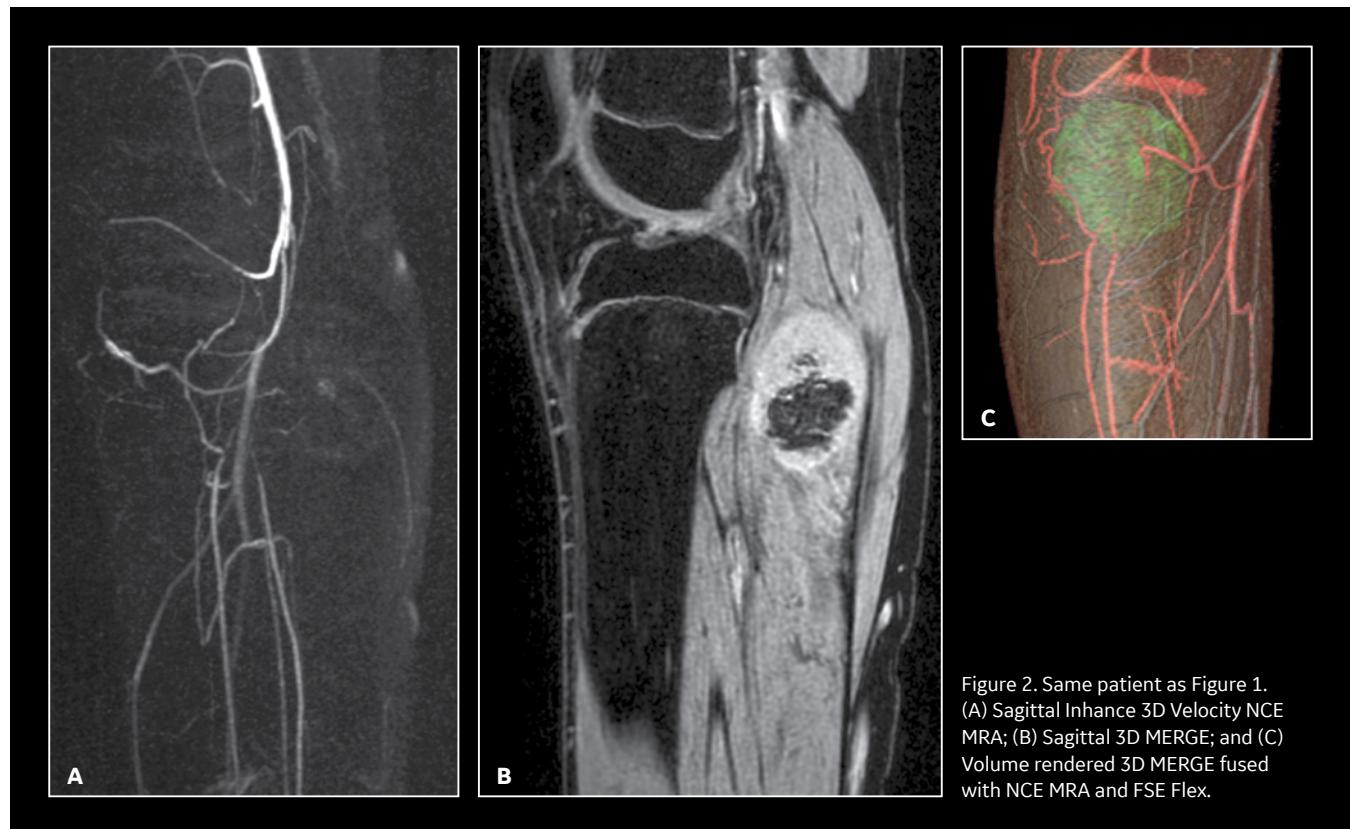

Figure 2. Same patient as Figure 1.
Figure 2. AIR™ Recon DL improves SNR to help depict lesions. (A) Existing protocol: sagittal T2 FSE, 0.9 x 1.0 x 3.5 mm, 4 NEX, 2:50 min. (B) Revised protocol: sagittal T2 FSE, 0.9 x 1.0 x 3.5 mm, 2 NEX, 1:28 min. (C) Image in 2B reconstructed with AIR™ Recon DL at maximum noise reduction to enable shorter scan time without sacrificing SNR.
difficult to appreciate on the images processed without AIR™ Recon DL. In Dr. Roux's opinion, the lesion was more clearly visible on the images processed with AIR™ Recon DL (Figure 2).
Figure 2. MAGiC is routinely used at Kawasaki Saiwai for neuro MR exams. The AIR™ 48-channel Head Coil was used for this exam. (A) Axial DW-EPI in 45 sec. and (B) Axial T2 FLAIR in 3:07 min. Using MAGiC, from (A) and (B), the technologist can generate multiple contrasts, including (C) Axial T2w, (D) Axial T1w, (E) Axial DIR and (F) Axial PDw.
with the AIR™ 48-channel Head Coil, we can reduce the scan time from six to three minutes because of the higher SNR,” (Figure 2).
Figure 2. A female weighing 287 lbs. (130 kg) referred for MR imaging of the pelvis. (A) Sagittal T2w frFSE, $0.8 \times 0.9 \times 4$ mm, 6:08 min.; (B) Sagittal T2w PROPELLER MB, $0.9 \times 0.9 \times 4$ mm, 3:02 min.
For example, he obtained good contrast of the endometrium and junctional zone in a patient without motion artifact. In the upper abdomen, he acquired good images that were also not compromised due to motion (Figure 2).